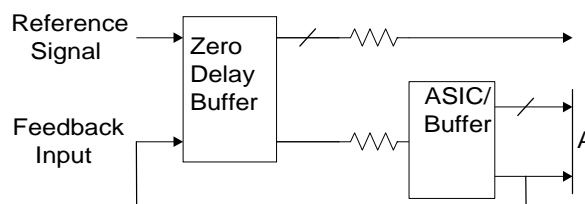

Figure 2. 6 Output Buffer in the Feedback Path
Referring to *Figure 2*, if the traces between the ASIC/buffer and the destination of the clock signal(s) (A) are equal in length to the trace between the buffer and the FBIN pin, the signals at the destination(s) device will be driven HIGH at the same time the Reference clock provided to the ZDB goes HIGH. Synchronizing the other outputs of the ZDB to the outputs from the ASIC/Buffer is more complex however, as any propagation delay in the ASIC/Buffer must be accounted for.